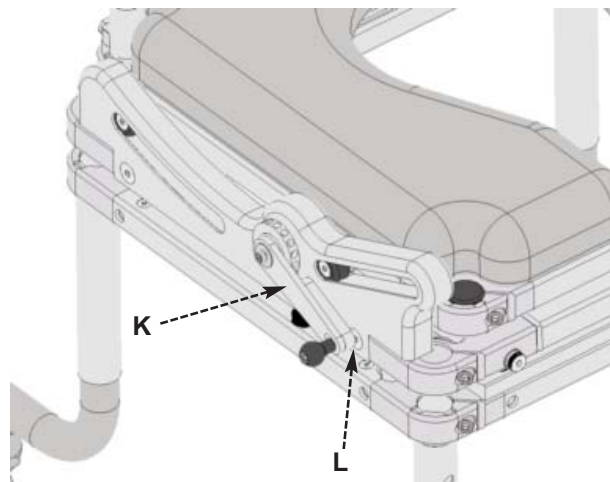
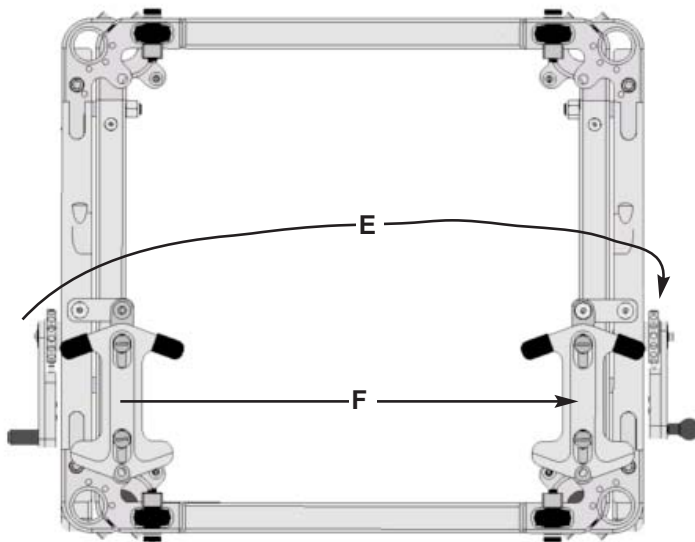

Figure 5
Figure 7
**E** Adjustments to the "Tilt Assembly" (Refer to Figure 5 on page 2 and Figure 7 this page) need to be made as follows: Remove the "crank handle" by removing the socket screw with an 1/8" Allen wrench. Remove the cap from the opposite side of the frame, again using an 1/8" Allen wrench, and install it on this side. Reinstall the crank handle on the opposite side of the frame. NOTE: position the seat in the horizontal position and the crank handle should be approximately covering the flat head socket bolt on the frame.